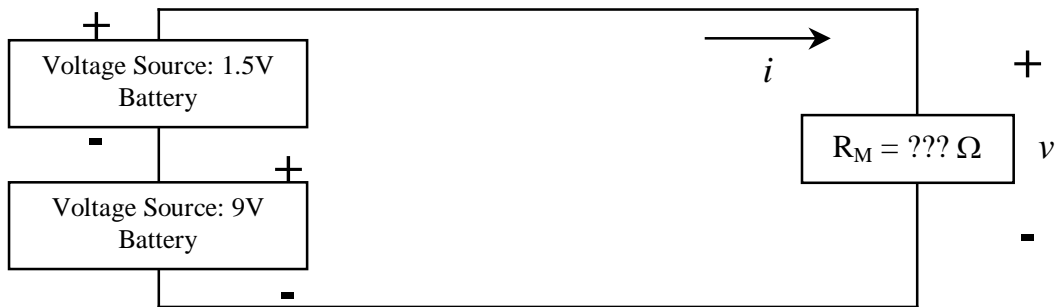

Figure P2-3 - Circuit for Procedure 2.e.
**e. (2 points)** Connect the 9V battery and the 1.5 V battery in series across the mystery resistor  $R_M$ . See Figure P2-3. Repeat steps b and c.